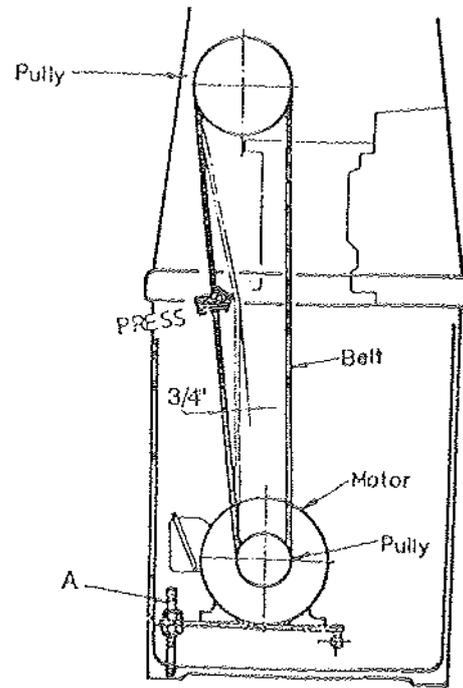

Fig. 26
3. Take tension off old belts by loosening two motor mount plate screws (A, Fig. 26).